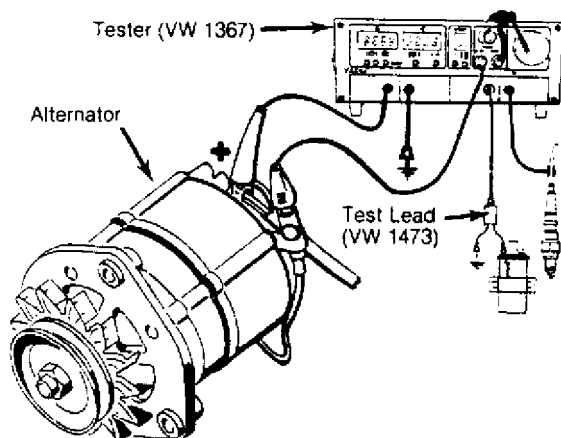

Fig. 2: Tester (VW 1367) & Test Lead (VW 1473)
6) Connect fuel pressure gauge and ensure system fuel pressure is correct. See FUEL SYSTEM in F - BASIC TESTING article. Connect an inductive tachometer or Tester (VW 1367) and Test Lead (VW 1473). See Fig. 2.
3) Connect an inductive tachometer or Tester (VW 1367) to alternator, Test Lead (VW 1473) to ignition coil, and timing light lead to No. 1 spark plug wire. See Fig. 2. Start engine and ensure engine speed and timing are correct. If not, adjust to specification.